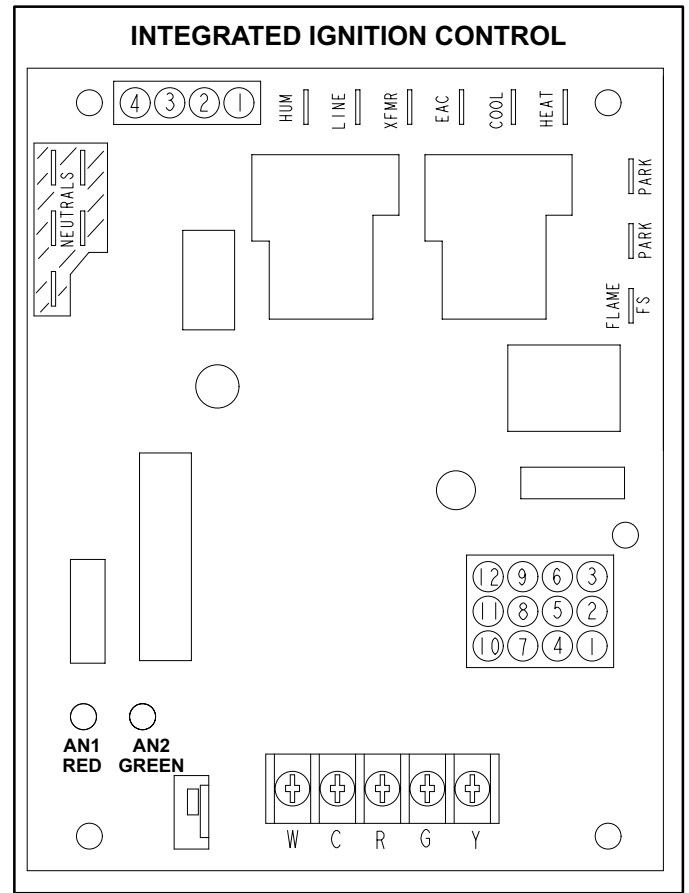
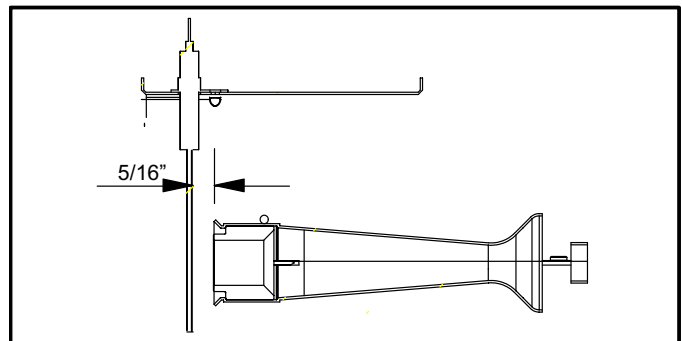
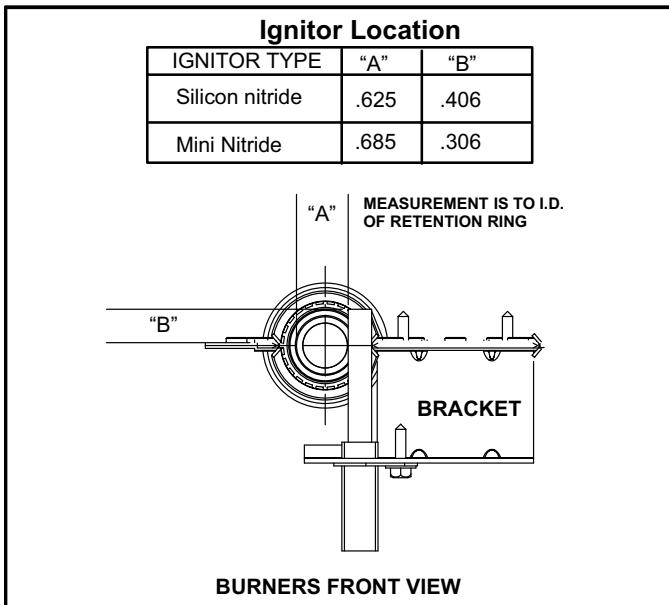

FIGURE 8
FIGURE 10
FIGURE 11
The hot surface ignition control system consisting of an integrated control board (figure 8 with control terminal designations in table 7), sensor (figure 10) and ignitor (figure 11). The ignition control board and ignitor work in combination to ensure furnace ignition and ignitor durability. The ignition control, controls all major furnace operations. The ignition control, controls all major furnace operations. The ignition control also features two LED lights (AN1 red and AN2 green) for troubleshooting and two accessory terminals rated at (1) one amp. The ignition control also features a (3) amp fuse for overcurrent protection. Tables 5 and 6 show jack plug terminal designations. See table 4 for troubleshooting diagnostic codes. The mini-nitride ignitor is made from a non-porous, high strength proprietary ceramic material that provides long life and trouble free maintenance. The ignition control continuously monitors line voltage and maintains the ignitor power at a consistent level to provide proper lighting and maximum ignitor life.
5.Flame Sensor (Figure 10)
A flame sensor is located on the left side of the burner support. See figure 10. The sensor is mounted on the flame rollout plate and the tip protrudes into the flame envelope of the left-most burner. The sensor can be removed for service without removing any part of the burners. During operation, flame is sensed by current passed through the flame and sensing electrode. The ignition control allows the gas valve to remain open as long as flame signal is sensed.
6. Ignitor (Figure 11)